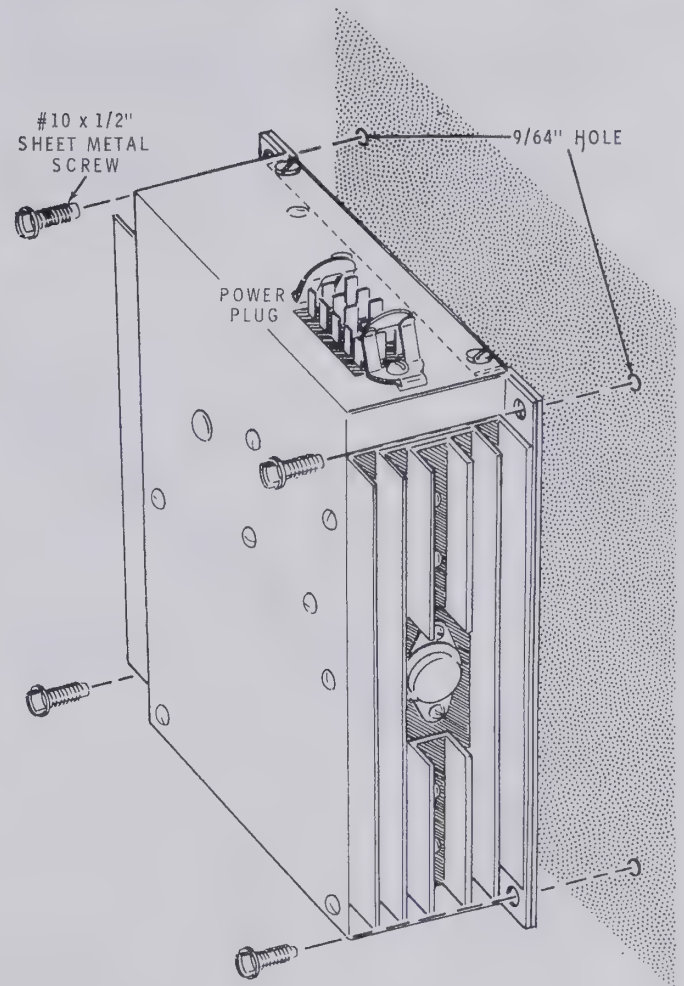

Figure 2
- () When you have decided upon the mounting position, use the Power Supply as a template and mark the four hole locations on the chassis. See Figure 2. Drill a 9/64" hole at each of these four points.
- () Refer to Figure 2 and mount the Power Supply at the prepared location. Start four #10 x 1/2" sheet metal screws into the mounting surface; then tighten them securely.